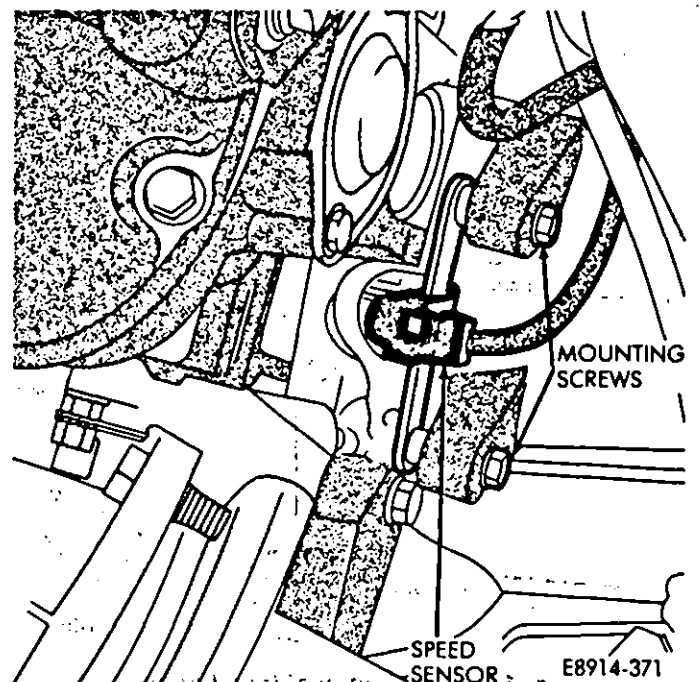

Fig. 9—Engine Speed Sensor Removal/Installation
The Speed Sensor is located on the left side of the transmission converter housing behind the rear face of the engine (Fig. 9).
- (1) Remove the speed sensor mounting screws (Fig. 9).
- (2) Disconnect speed sensor wire connector.
- (3) Remove speed sensor.
- (1) Install speed sensor (Fig. 9).
- (2) Tighten mounting screws to 8 N·m (71 in.-lbs) torque.
- (3) Connect wire connector to speed sensor.